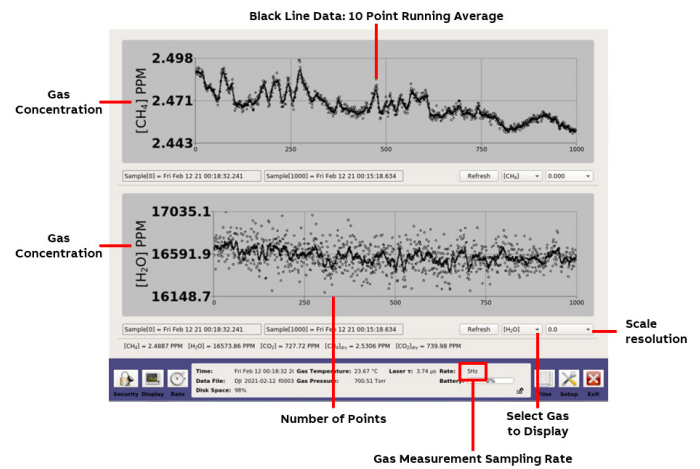
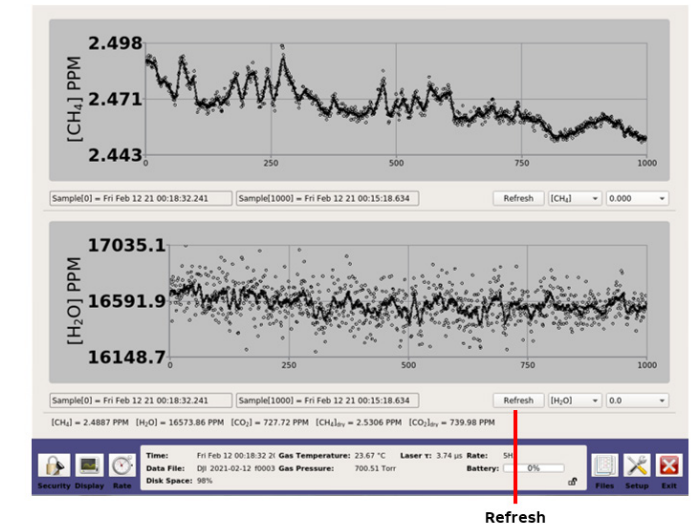

Figure 24 Spectrum Display Screen
Figure 25 Timechart Refresh Display
- *Timechart* (Figure 24 and Figure 25)
The *Timechart* display (Figure 24) provides the absorption (in ppm) of the sample gas measured. The black line represents the trace of measured concentrations at a customizable interval rate.
The **Refresh** button in the *Timechart* display (Figure 25) refreshes the screen to display the sampling data with a new starting point.